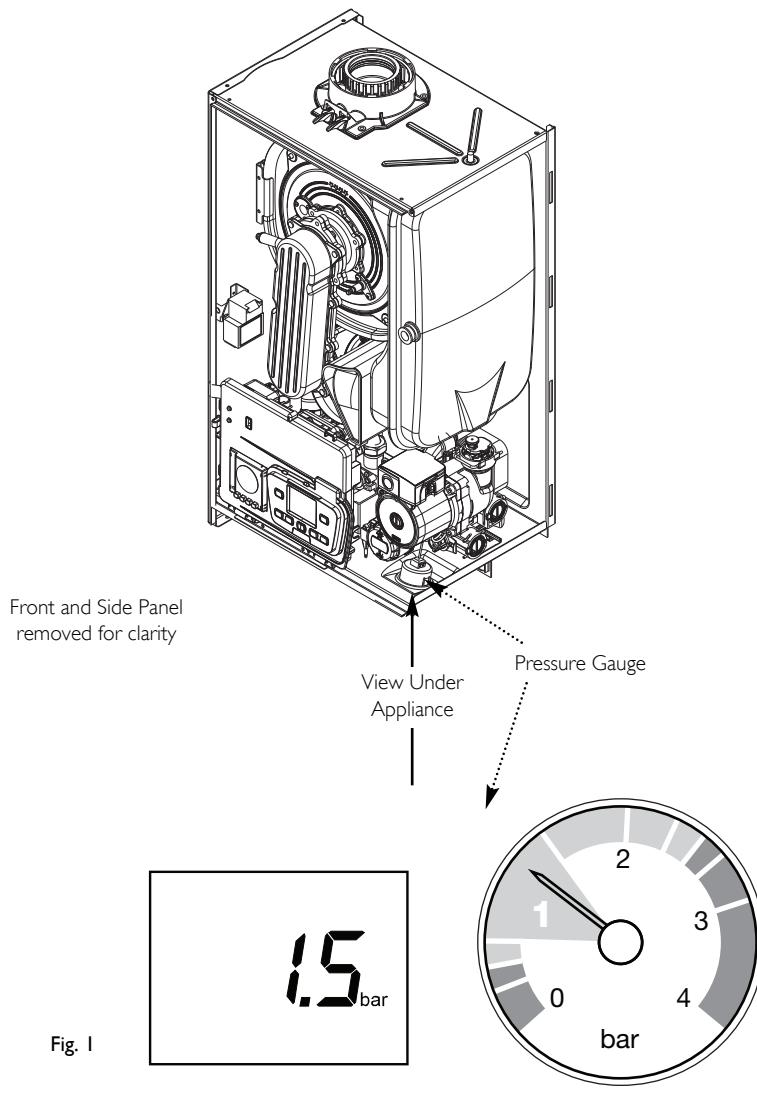

Fig. 2
2. It may be necessary to repressurise the system occasionally (as Fig. 2 or E118 displayed). A filling device (the filling loop) will be fitted on the system. This will be on the boiler itself, or on pipework near to the boiler.